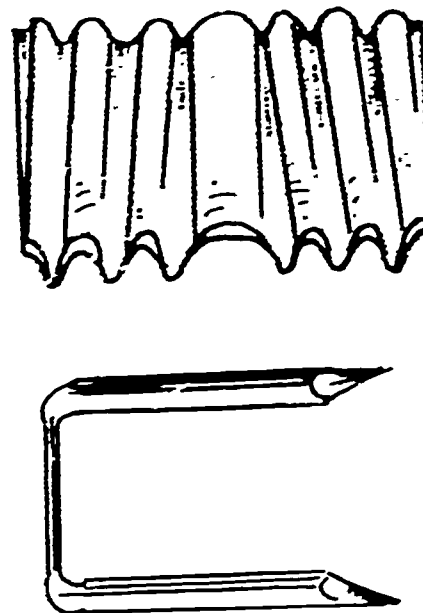

FIG. 222
g. Staples and corrugated fasteners are also used to join materials. See figure 222. The corrugated fastener is used to join two pieces of the same size wood, at corners, or butt joints as in picture framing. The fastener is driven at a right angle and across the seam. See figure 222.